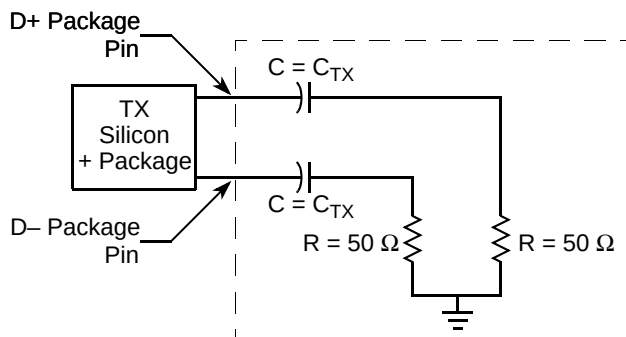

Figure 57. Compliance Test/Measurement Load
2. Specified at the measurement point and measured over any 250 consecutive UIs. The test load in Figure 57 should be used as the RX device when taking measurements (also refer to the Receiver compliance eye diagram shown in Figure 56). If the clocks to the RX and TX are not derived from the same reference clock, the TX UI recovered from 3500 consecutive UI must be used as a reference for the eye diagram.
4. The Receiver input impedance shall result in a differential return loss greater than or equal to 15 dB with the D+ line biased to 300 mV and the D- line biased to -300 mV and a common mode return loss greater than or equal to 6 dB (no bias required) over a frequency range of 50 MHz to 1.25 GHz. This input impedance requirement applies to all valid input levels. The reference impedance for return loss measurements for is 50 ohms to ground for both the D+ and D- line (that is, as measured by a Vector Network Analyzer with 50 ohm probes - see Figure 57). Note: that the series capacitors CTX is optional for the return loss measurement.
The AC timing and voltage parameters must be verified at the measurement point, as specified within 0.2 inches of the package pins, into a test/measurement load shown in Figure 57.